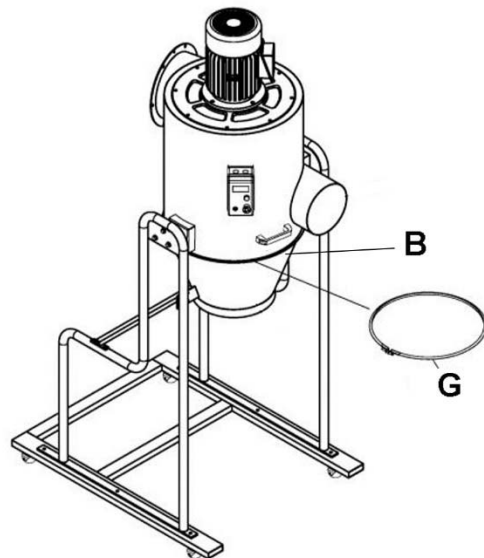

Figure 6
7. Install funnel (B) beneath main housing. Secure with funnel clamp (G). See Figure 6. Tighten screw on funnel clamp securely.